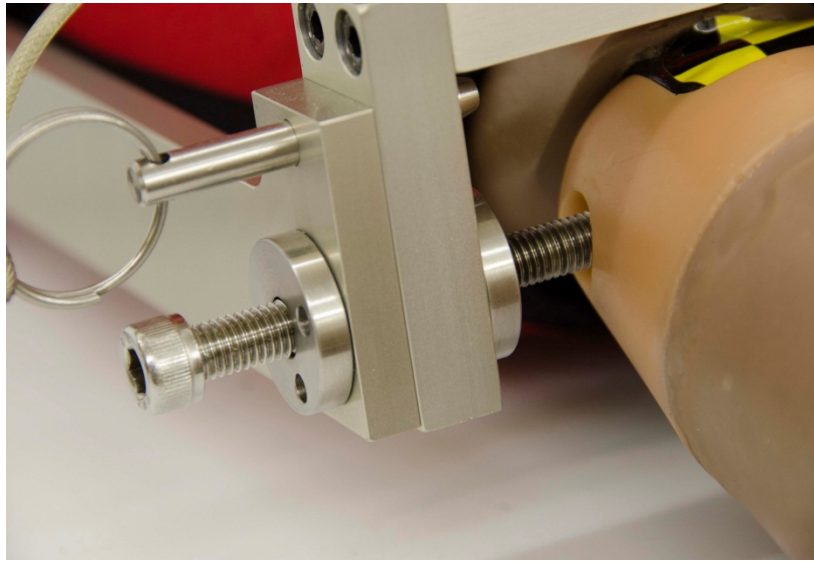

Figure 126. Position bolts into the knee
- Pull the feet apart while hand-tightening either left or right bolt (Figure 126) until the inner side of the knee *just touches* the center spacer of the positioning tool (Figure 127).